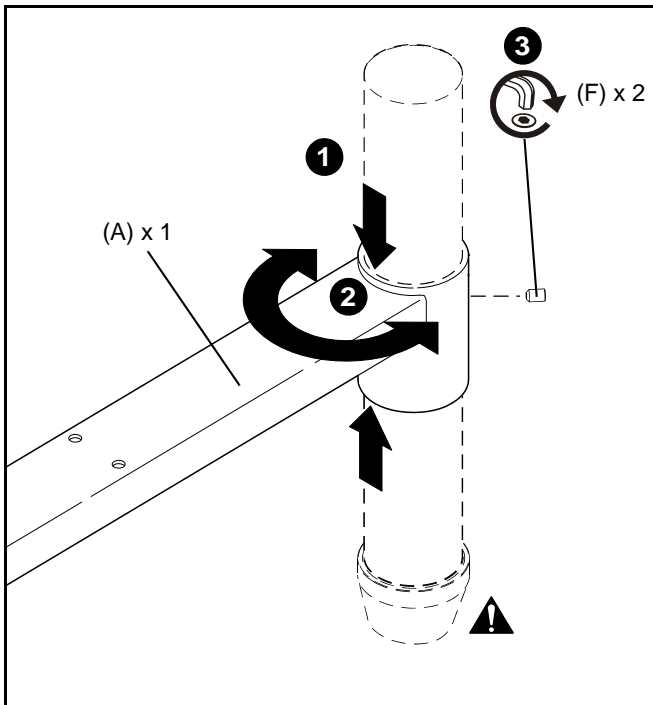

Figure 1
2. Slide projector arm (A) onto pipe and position at desired location.
3. Secure projector arm (A) to NPT pipe using two 5/16-18X3/8" set screws (F). (See Figure 1)
**WARNING:** IMPROPER INSTALLATION CAN LEAD TO MOUNT FALLING CAUSING SEVERE PERSONAL INJURY OR DAMAGE TO EQUIPMENT! In installations where pipe is mounted to the ceiling, and end cap **MUST** be used on bottom end of pipe. (See Figure 1)